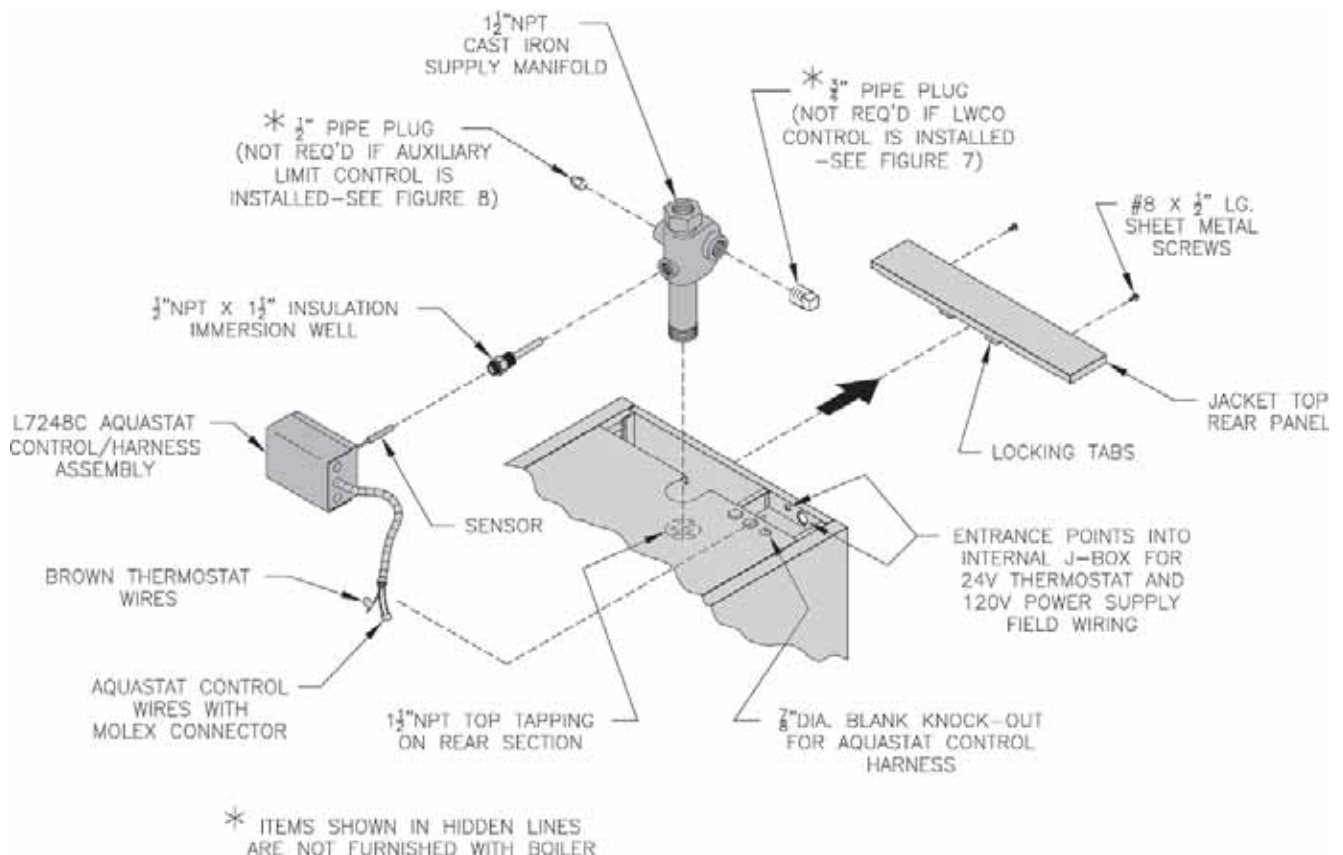

Figure 5: Supply Manifold and Aquastat Control Assembly Details
1. Install supply manifold and aquastat control, refer to Figure 5.
Step b. Locate the cast iron supply manifold shown in Figure 5. Apply thread sealant to 1-1/2" NPT male threads. Thread male end into 1-1/2" NPT top tapping on rear section. Using hex head on top, tighten manifold until 1/2" NPT boss for control well is facing forward and joint is water tight.
Step d. Locate L7248C Aquastat Control/Harness Assembly. Loosen mounting screw on bottom of case. Insert sensor into immersion well. Mount control on immersion well and tighten screw to secure control in horizontal position with harness on right side as shown in Figure 5.
6. Connecting field wiring, refer to Figures 5, 6 and 34A or 34B.
Step a. 120 volt power supply field wiring will enter internal junction box through 7/8" dia. knockout in jacket rear panel, see Figure 5.
Step e. Locate jacket top rear panel that was removed earlier to gain access to internal junction box. Position panel between side panels, hold on a slight angle, engage tabs on front flange of **top rear** panel with rectangle slots on rear flange of **top** panel, refer to Figures 5 and 9.